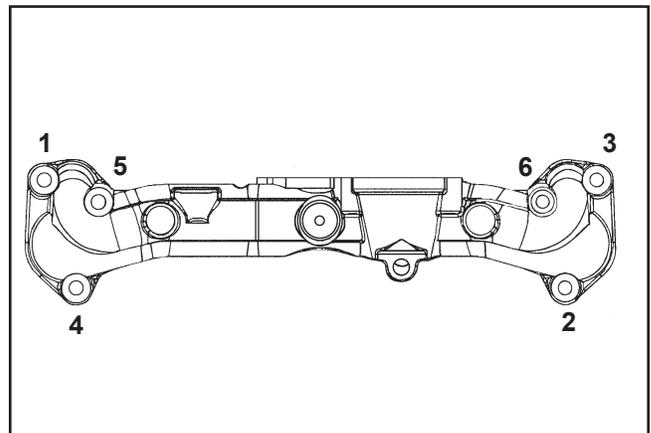

Figure 11-58. Intake Manifold Torque Sequence.
3. Set the intake manifold, with by-pass hose and wiring harness attached, down into position onto the gaskets and cylinder heads. Install and finger tighten the six hex flange screws in their appropriate locations. Make sure the clamps for the wiring harness are positioned on the long screw on each side. Torque the six intake manifold mounting screws in two steps: first to 7.4 N·m (66 in. lb.), finally to 9.9 N·m (88 in. lb.) in the sequence shown. See Figure 11-58.